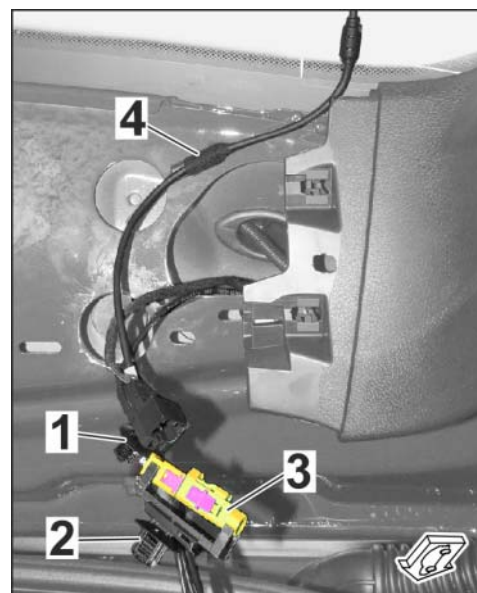

Figure 22
- 3.6.1 Carefully remove the power supply retaining clip and video signal retaining clip from the tailgate and guide it outwards out of the rear lid cavity. ⇒ *Figure 22*
- 3.6.2 Secure wire harness for rear camera to the tailgate frame using wrapping clip and insulating tape. ⇒ *Figure 22 -4-*
- 3.6.4 Remove video signal plug connection from holder and remove dummy plug (⇒ *Figure 22 -3-*).